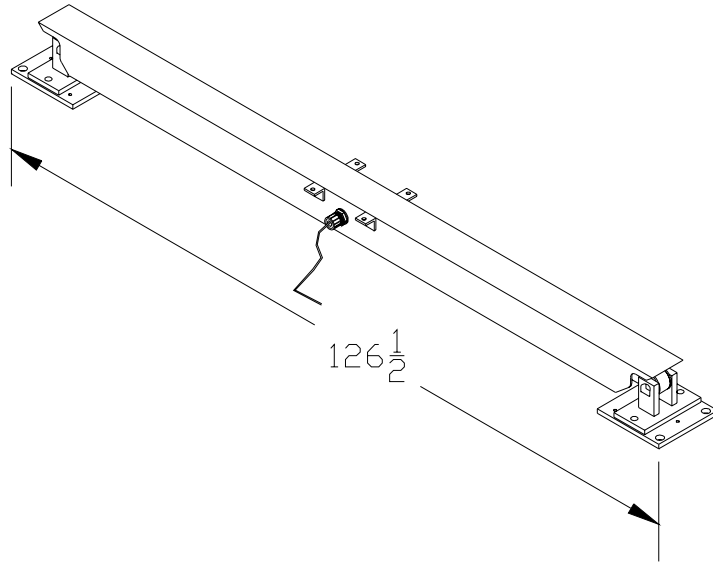

Figure 6 - Loadbar Length
4. Roughly locate the lower removable pads on the foundation piles with the large holes facing towards the outside of the deck. Ensure that the setscrews in the lower pad are facing up (to allow for adjustment). If mounting lugs were installed when the foundation was poured, simply place the lower pad over the lugs. The width from outside to outside of the lower pads should be $126\frac{1}{2}$ " (see Figure 6).